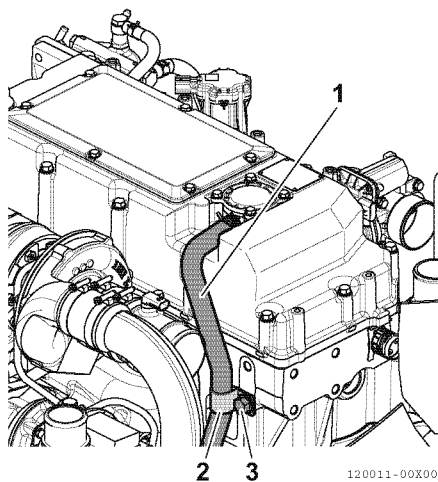

Fig.14-47
- Loosen the bolt (3, Fig.14-47) of the clamp (2, Fig.14-47) that fastens the breather hose (1, Fig.14-47) to the cylinder block, then remove the clamp.